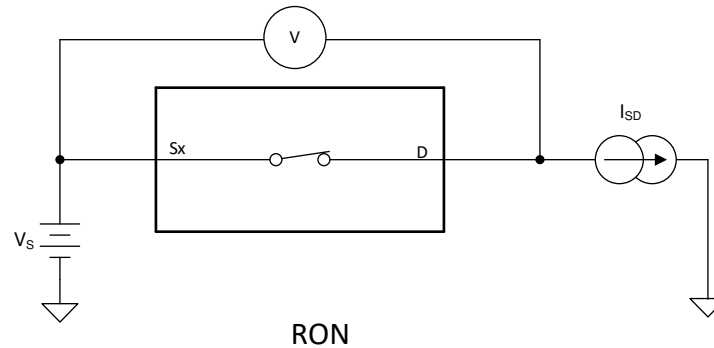

图 8-1. On-Resistance Measurement Setup
The on-resistance of a device is the ohmic resistance between the source (Sx) and drain (D) pins of the device. The on-resistance varies with input voltage and supply voltage. The symbol  $R_{ON}$  is used to denote on-resistance. 图 8-1 shows the measurement setup used to measure  $R_{ON}$ . Voltage (V) and current ( $I_{SD}$ ) are measured using this setup, and  $R_{ON}$  is computed with  $R_{ON} = V / I_{SD}$ :